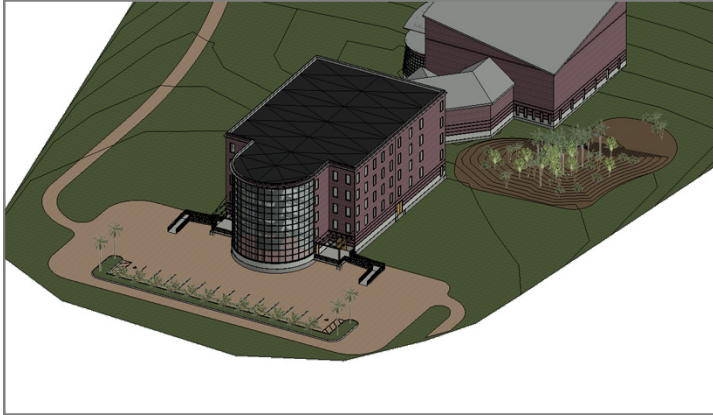

FIGURE 18.18: Adding the plantings
6. Go to a 3D view and check it out, as shown in Figure 18.18.